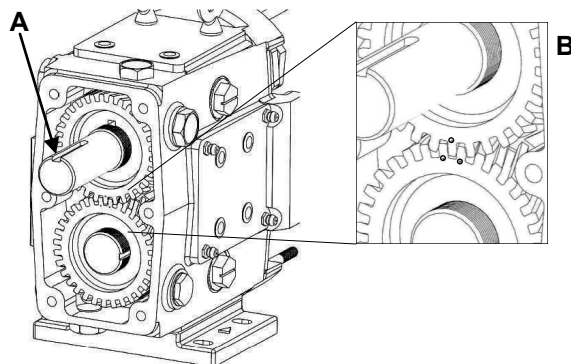

Figure 51: Installing Gears with Correct Timing
8) Once the gear keys are installed, orientate the shafts so that the keyways on the drive shaft are pointing in the 12 o'clock direction (Figure 51, A). Slide the right-handed gear with the single punch mark onto the drive shaft. Slide the second gear with two punch marks on the short shaft. To time the gears align so that the single punch mark falls between the two punch marks on the opposite gear (Figure 51, B).